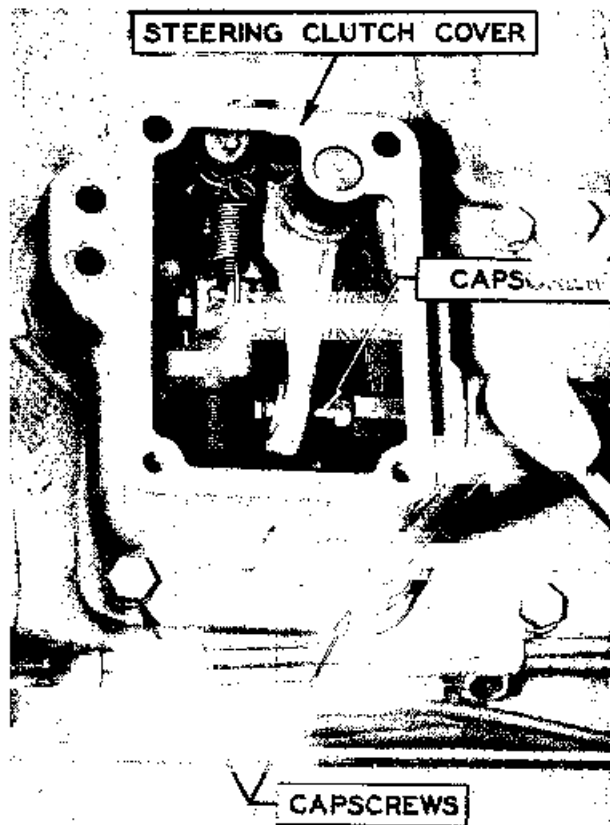

FIG. 4
9. Remove ventilating covers from top of steering clutch cover by taking out 4 capscrews in each. Fig. 4.
10. Remove jam nuts from grease tubes which come up through steering clutch cover assembly. Fig. 4.
11. Loosen steering clutch adjusting screw lock bolts at top of throwout fork and back adjusting screw out far enough to pass by thrust pin; unhook throwout fork spring from dowel in top of case. Fig. 4.